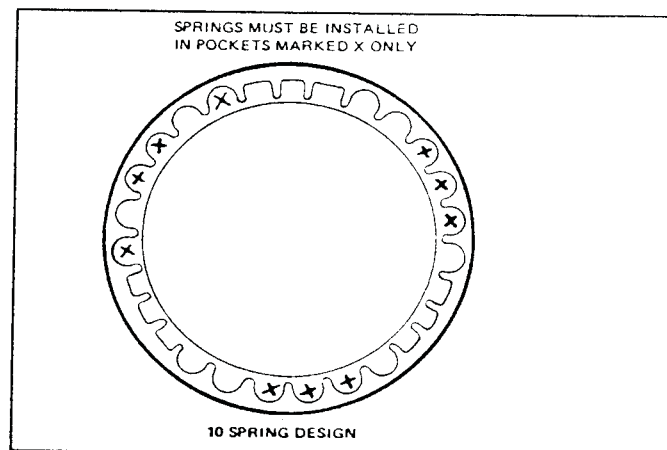

FIG. 45 Reverse-High Clutch Piston Return Spring Locations
4. Position the piston return springs in the piston sockets (Fig. 45). Place the spring retainer on the springs.